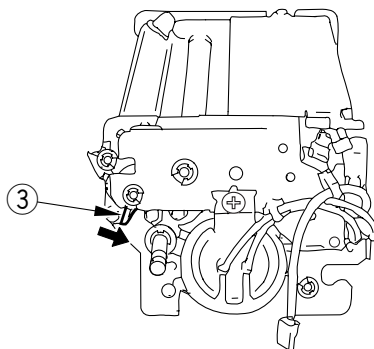

Figure 6-208
- 2) After installing the fixing cleaning belt, move the one-way lever ③ in the direction of the arrow shown in Figure 6-208, and turn it until all the slack has been removed.